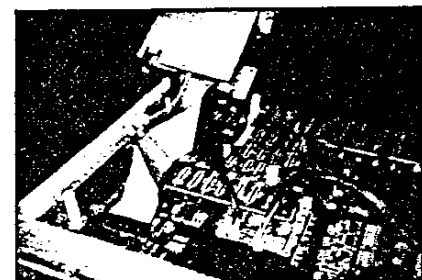

Fig. 2-11. Drive Cable Locations
2.5.4 Lift the drive away from the PCB and disconnect the ground wire at T4. See Fig. 2-11.